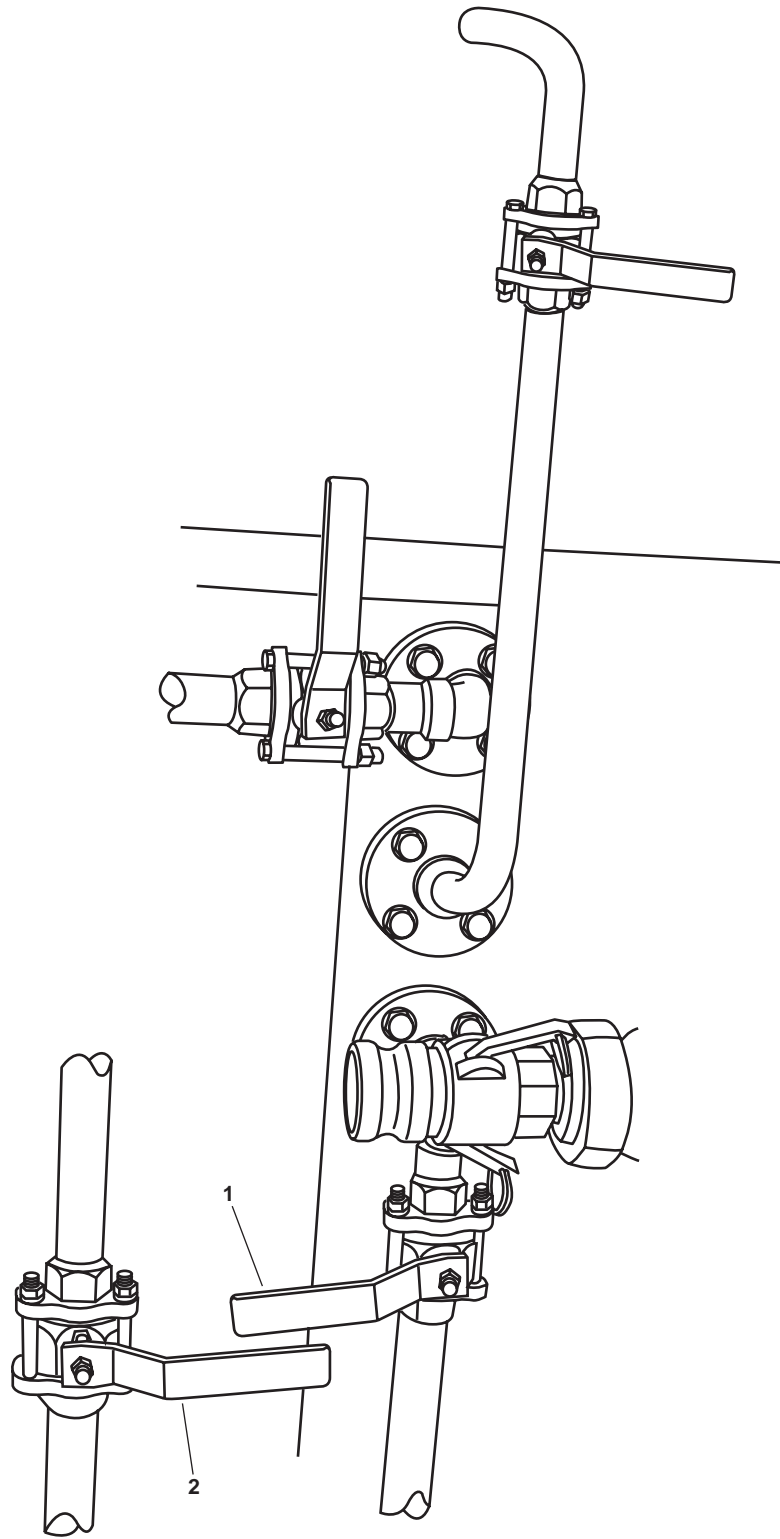

Figure 6. Media Filter Valves
2. CLOSE, lock out, and tag out (FM 55-502) valves RO-V-3 (figure 6, item 1) and RO-V-4 (figure 6, item 2).